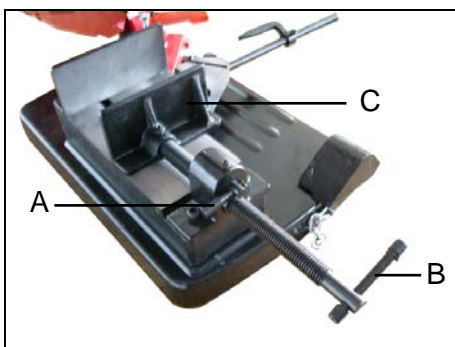

Fig. 2
1. Swivel the handle (A) to the left side in Fig.2 then you can move the vise forward and backward with ease by holding the handle (B) in Fig.2 at the left end of base.
2. Push the vise jaw (C) in Fig.2 toward the work, make it as close as possible against the other vise jaw which is fixed.
3. Swivel the handle (A) to the right side.
4. Turn the handle (B) in Fig.2 clock-wise to make sure the work is well located. During operation, you shall find it more convenient & more powerful to fulfill the clamp job than any of traditional ones could offer.